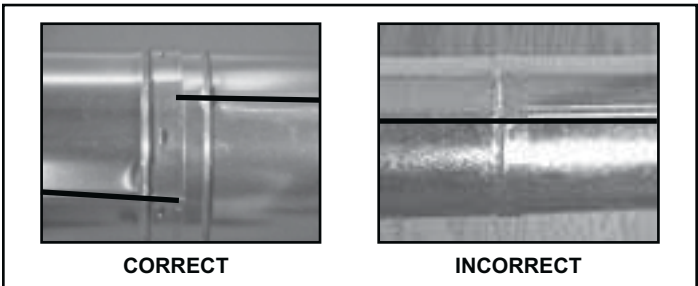

Figure 3.2 - Make sure the seams are not aligned to prevent unintentional disconnection.
The outer flue of the slip section should slide over the outer flue of the pipe section and into (inner flue) the last pipe section, Figure 3.2.
3. Install the vent system as described in Figures 3.2 thru 3.14.